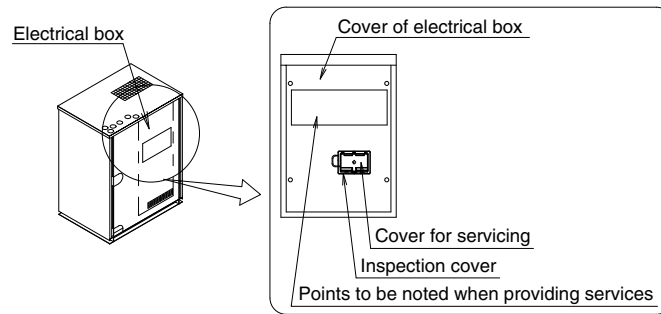

figure 27
(1) Check the connection of interlock circuit	The outside unit cannot be operated if the interlock circuit has not been connected.
(2) As necessary, configure the system settings onsite by using the dip switch (DS1) and push button switches (BS1 to 5) on the outside unit PC board (A1P). After this, close the cover of electrical box.	Always perform configuration after turning ON the power. To learn the setting method, refer to the [Service Precautions] label attached at the cover of electrical box shown in the figure 27. Remember, the actual settings you have made must be recorded on the [Service Precautions] label.
(3) Turn ON the power to the outside units and indoor units.	Make sure to turn ON the power 6 hours before starting the operation. This is necessary to warm the crankcase by the electric heater.
(4) Start the heat source water pump and fill the heat source water in the outside unit.	The outside unit cannot be operated if the heat source water pump is not running.
(5) Make sure that the temperature of heat source water is kept within the operation range (10 - 45°C).	The outside unit cannot be operated at a temperature outside the operation range.
(7) • Using the push button switches (BS1 - 5) on the P-panel (A1P) of outside unit, carry out a local setting, if necessary. • In case of an installation of multiple outside units, carry out the setting on the master unit. (Setting on the slave unit becomes invalid.)	Always carry out the setting only after the power supply has been applied. For the method of setting, refer to the label of “Points to be noted when providing services” attached to the cover of electrical box (shown in the figure 27) of the outside unit. (After setting, record the details of that setting to the label of “Points to be noted when providing services” without fail.)
(8) Check all shutoff valve is opened. If some shutoff valve is closed, open them. (Refer to “9-10 Shutoff valve operation procedure”.)	<p>[CAUTION] Do not leave any shutoff valve closed. Otherwise the compressor will fail. For Heat recovery system of cooling and heating: Open all stop valves on the suction side, discharge gas side and liquid side. For cooling and heating switching operation system: Open the stop valves on discharge gas side and liquid side. (Keep the stop valve on suction side fully closed.)</p>
(9) Perform the check operation following the instructions printed on the [Service Precautions] label.	<p>If you push the test run button (BS4) on the P-panel (A1P) of the outside unit for 5 seconds, the test run starts. If you want to interrupt the test run, push the RETURN button (BS3) on P-panel (A1P) of the outside unit. The system continues residual operation for about 1 minute (maximum 10 minutes) and then stops. (During test run, you cannot stop it by a command from a remote controller.) You need to perform the above settings on the PC board by accessing the PC board through the inspection cover on the switch box cover.</p>